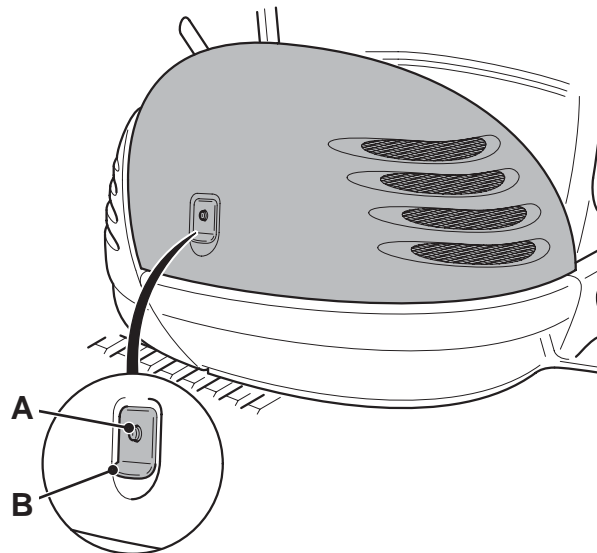

Fig 73.
- 2 Unlock the cover using the starter key. Release the latch by pushing button **A** and pulling up handle **B** at the same time. → Fig 73. ( 213)